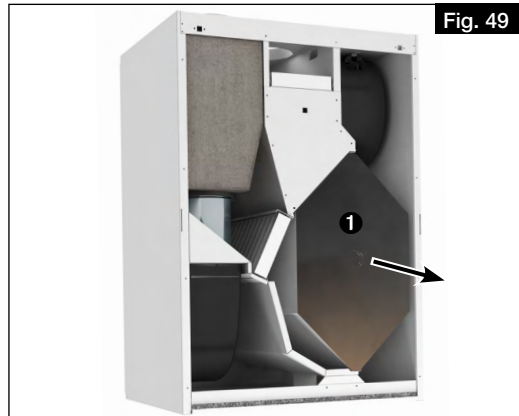

Fig. 49
3. Carefully remove the heat exchanger ❶ from the unit (see Fig. 49).